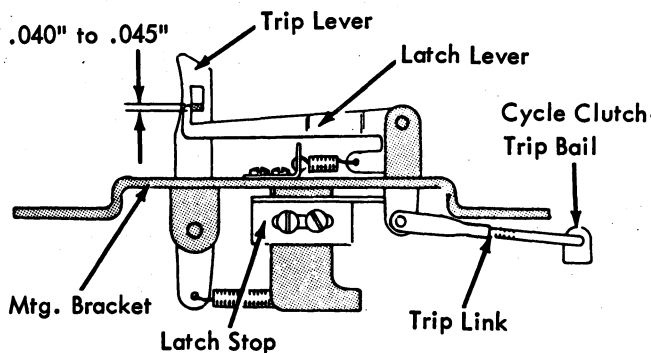
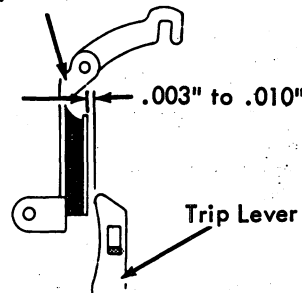
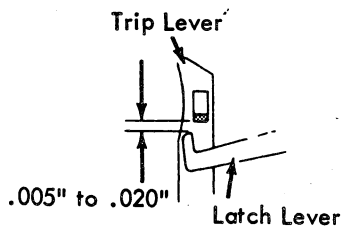

FIGURE 35. Latch Lever
FIGURE 36. Mounting Bracket Position
FIGURE 37. Trip Link Adjustment
- a. Disconnect the trip link (Fig. 35).
8. **Trip Link (Late Style)** - The clevis is now attached to the link and the adjustment is made with a self-locking nut. The adjustment is the same as in Fig. 37.
1. **Latch Stop (Unit Removed) (Fig. 35)** - Position so that the latch lever overlaps the trip lever lug by .040" to .045".
2. **Mounting Bracket (Unit Installed) (Fig. 35)** - Position front to rear so that the trip lever clears the cycle clutch latch by .003" to .010" (Fig. 36).
3. Trip Link Clevis (Fig. 35) - With either the T2 or R5 armature manually attracted, adjust the clevis so that the latch lever overthrows the trip lever lug by .005" to .020" (Fig. 37).